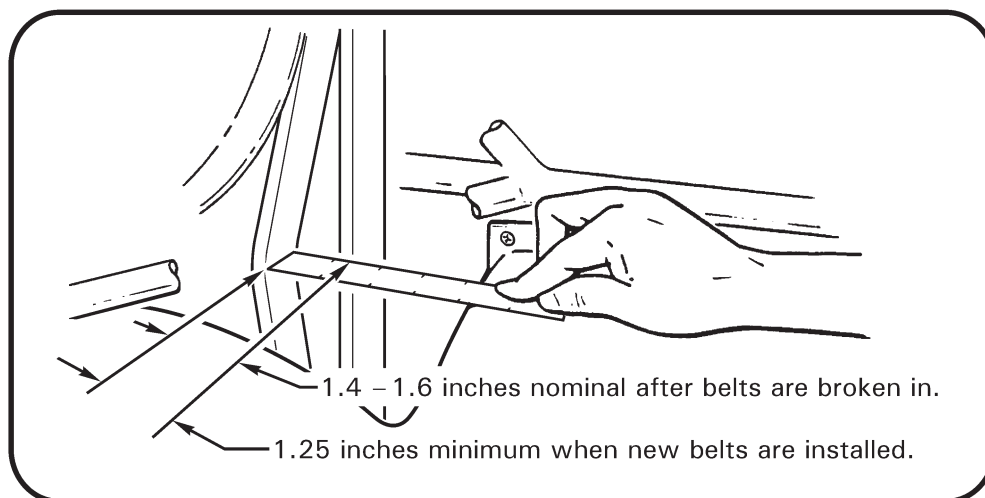

FIGURE 7-7A V-BELT DEFLECTION (ACTUATOR DISENGAGED)
11. Measure belt deflection with actuator disengaged. Using a scale and finger pressure, belts must deflect inward 1.4–1.6 inches per Figure 7-7A. Adjust actuator down-limit stop screw (see Figure 7-15) as required to obtain correct dimension. Tighten down-limit stop screw jam nut.